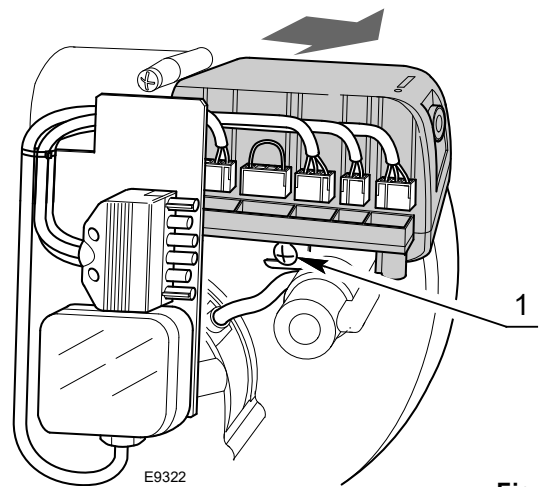

Fig. 17
- disconnect all the connectors connected to it, the 6-pin plug, the high voltage cables, and the earth wire (TB);
- loosen the screw 1)(Fig. 17) and pull the flame control in the direction of the arrow.
- tighten screw 1)(Fig. 17) with a tightening torque of $1 \div 1.2$ Nm;